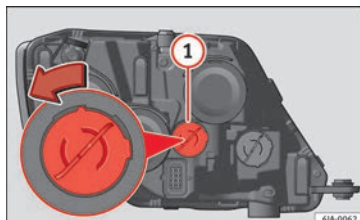

Fig. 94 Changing daytime driving light bulbs.
- Turn the bulb holder » **Fig. 94 ①** anti-clockwise and remove it.